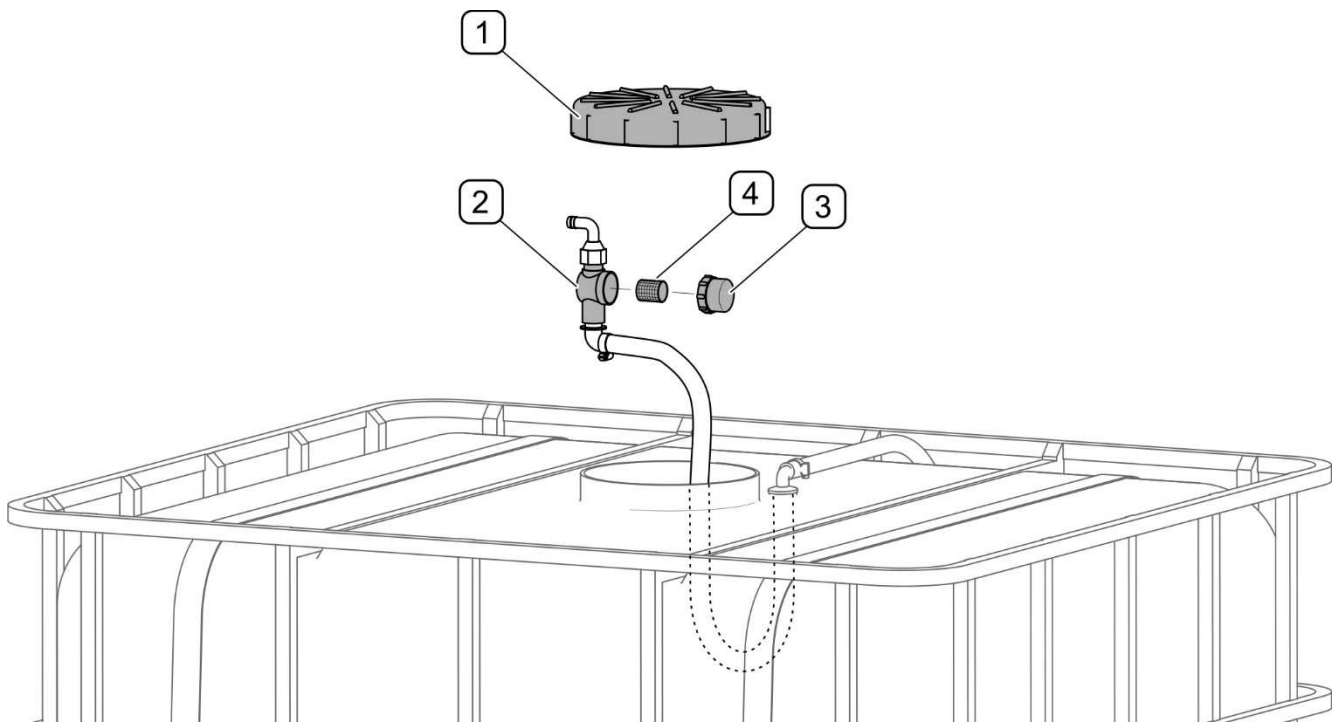

FIGURE 5.1 Water filters
Maintenance of the water supply system involves periodic inspection of the water system and cleaning of the filter (FIGURE 5.1). If the water supply system fails, first check water level in the tank and if filters are clean and the correct connection of the control cable with the switch and water pump power cable.
(1) - filler plug; (2) - filter housing; (3) - filter cover; (4) - mesh cartridge;
In the water supply system there is a filter installed in the tank at the end of the suction hose, which catches mechanical contaminants (FIGURE 5.1). To clean the filter, unscrew filler plug (1) and remove the suction hose together with the filter from the tank. In order to clean the filter, unscrew cover (3) and take out mesh cartridge (4) and wash it with water under pressure or clean with compressed air. Install cartridge (4), tighten cover (3), start the pump and check tightness of the connection. The system is vented automatically during machine operation.